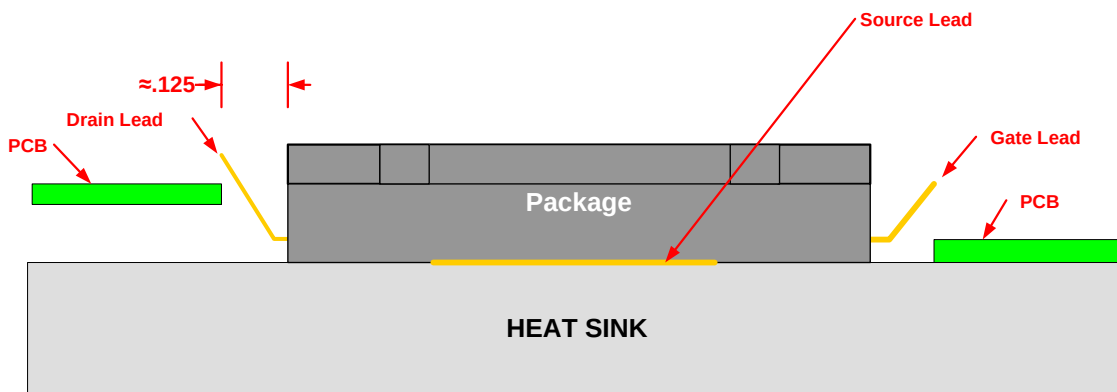
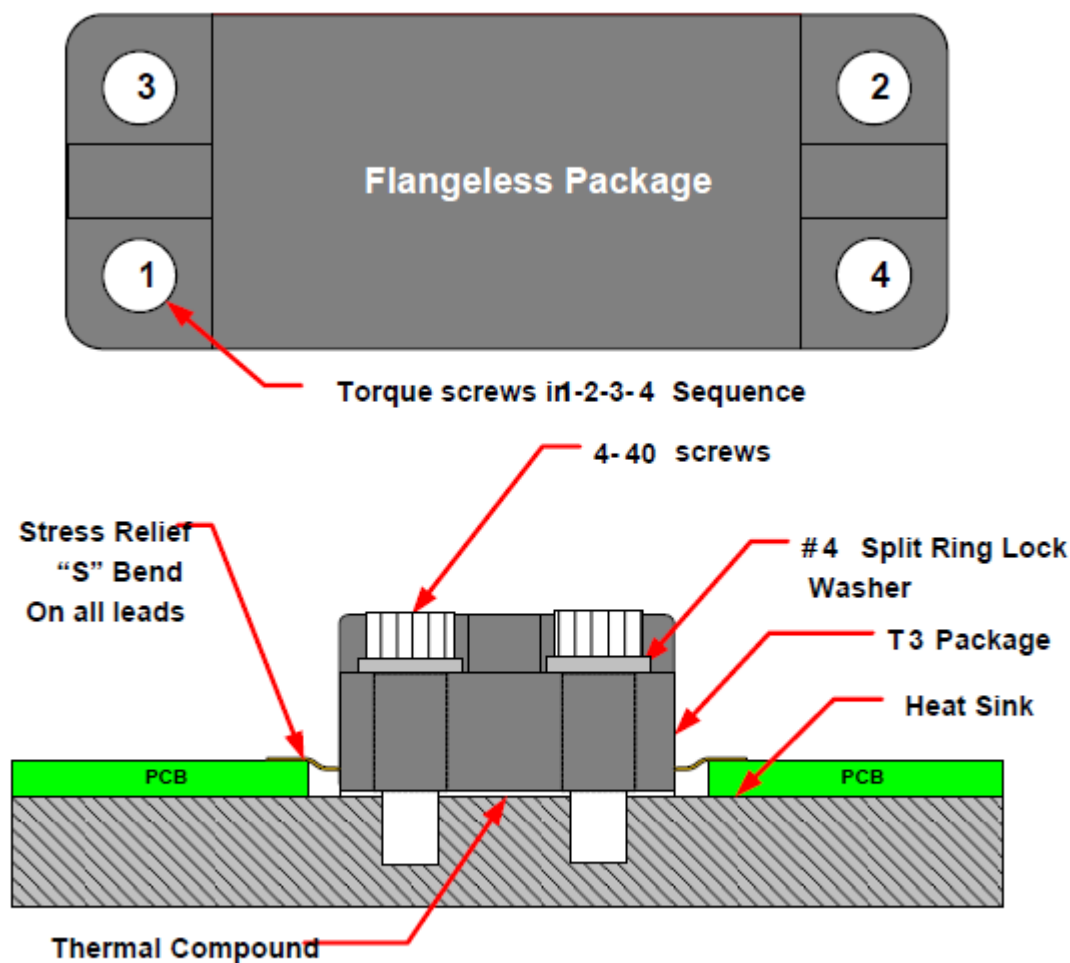

Figure 1 Lead Bending Prior to Seating
Figure 13 Top and Side View of a T3 package.
The following section presents the recommended heat-sink mounting procedures for any devices in the Flangeless Package family. Figure 1 shows two PCB arrangements. The arrangement on the left is for a PCD spaced off the heat sink. The arrangement on the right is for a PCB mounted flat against the heat sink.
First, bend the leads upward away from the BeO and in the direction of the top of the lid, at about a 45° angle, as illustrated in Figure 1. This prevents damage to the leads during the following processes.
1. The four screws (1-2-3-4), shown in Figure 13, should be installed and seated. Then torque to one-half the specification, in the sequence shown. First screw 1, then 2, 3 and finally 4.
Two common lead bending approaches are the “S” bend and the “U” bend. The leads should be prepared with an “S” bend, as shown in Figure 13 for the Drain lead or the “U” bend shown for the Gate lead. The type and location of the bend used is dependant on the user’s topology, recall Figure 1.